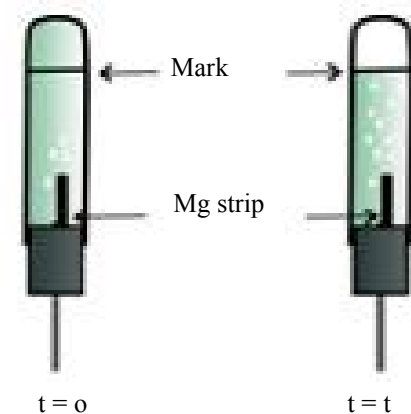

Figure 31.1 Experimental set-up
2. Connect a glass tube to a cork and also fix a Mg strip to the end of the glass tube as shown in Figure 31.1. (It is necessary to keep the same length of the Mg strip exposed to react in each experiment.)